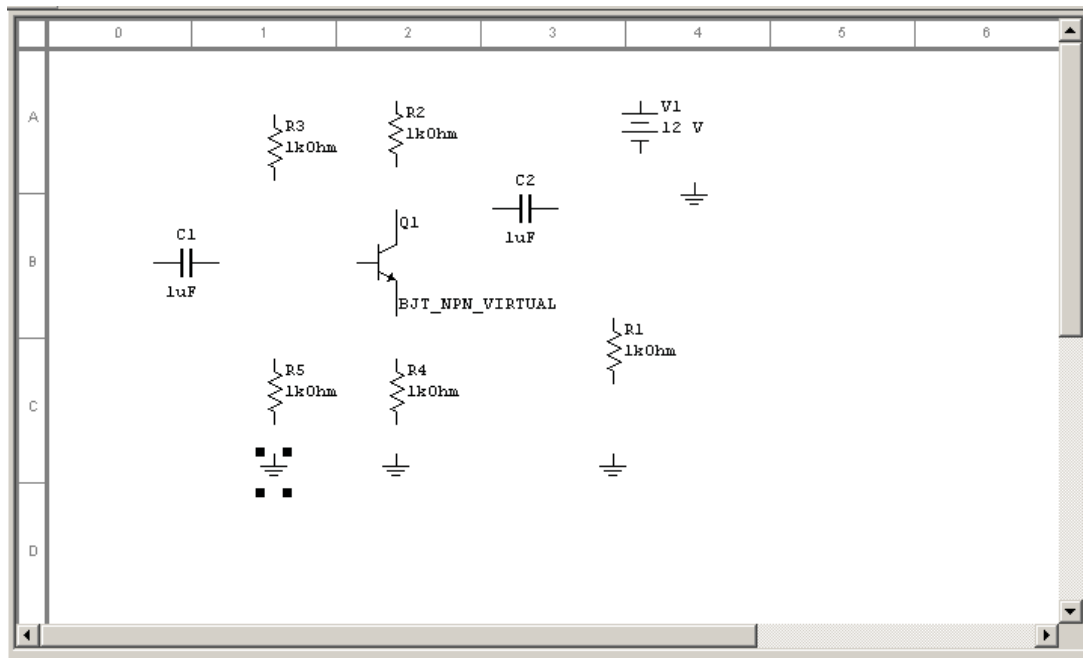

Figure 14
6. Rearrange your workspace to look like the workspace shown in Figure 14.